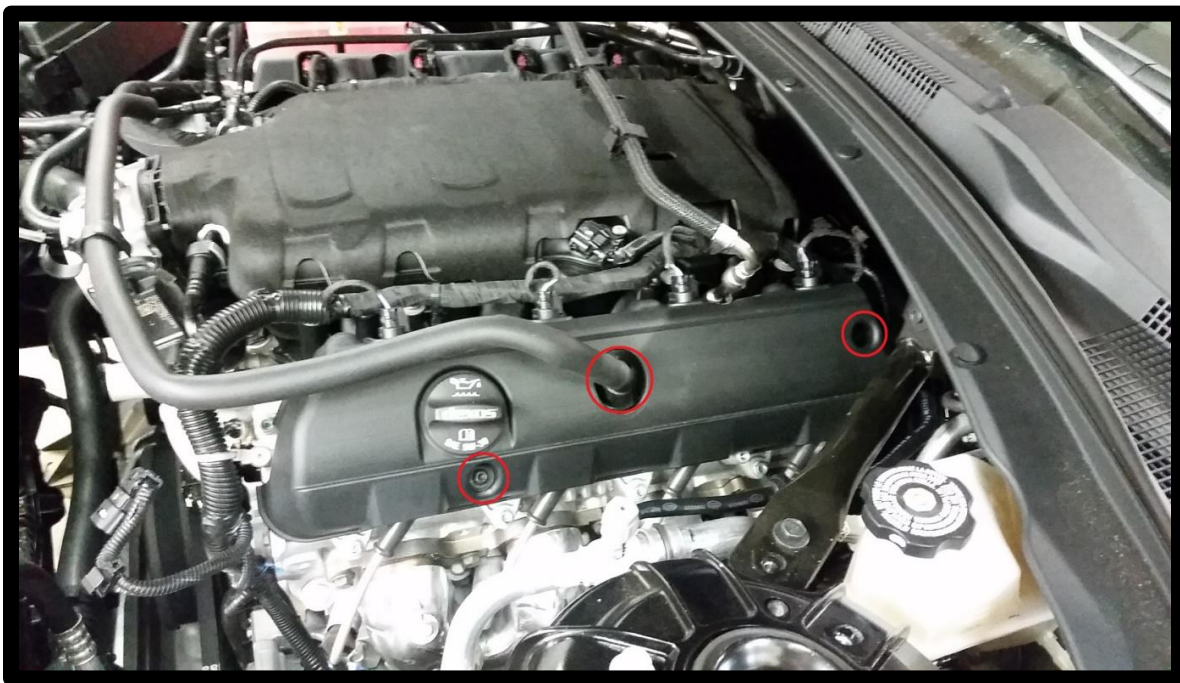

Figure 22: Removing Coil Pack Covers (Driver Side Shown)
26. The valve covers will need to be swapped in order for the supercharger to fit properly, to do this begin by removing the factory coil pack covers (left and right), see Figure 22.